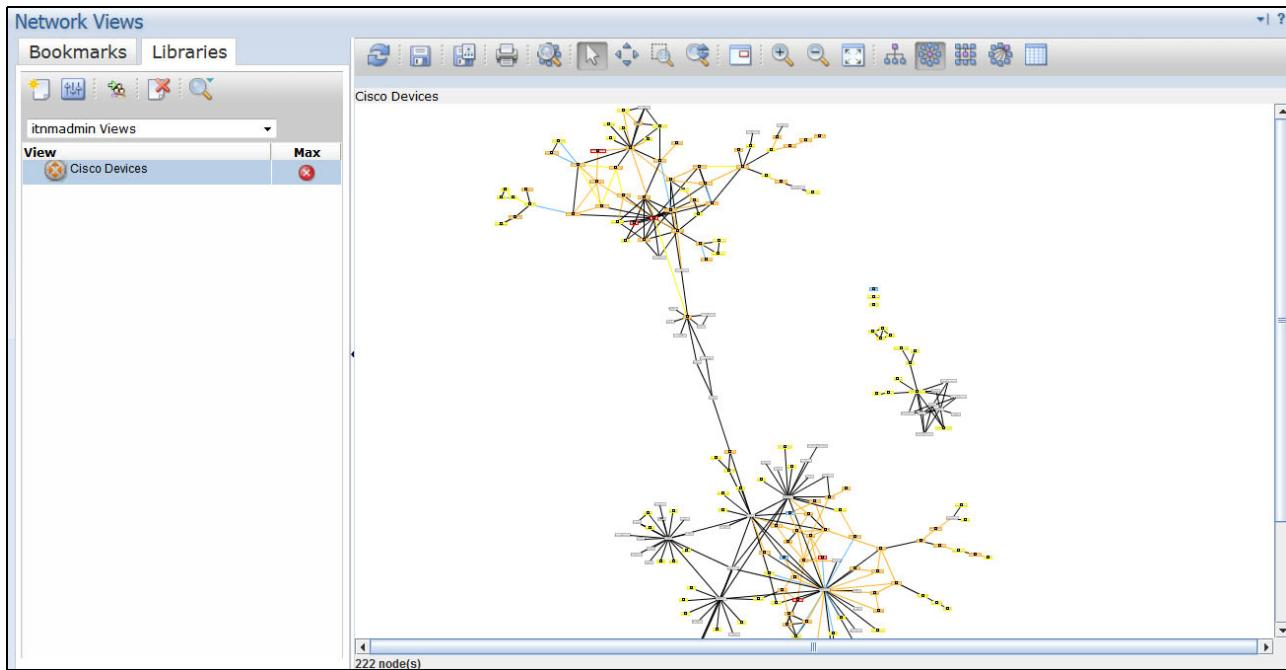

Figure 5-2 ITNM console view
3. Tom opens the **Cisco Devices** view. He can see the topology view, as shown in Figure 5-2 on page 111. He might need to zoom in the view by using the top menu buttons or right-clicking any area in the window.